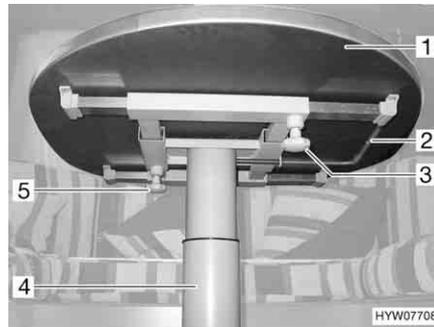
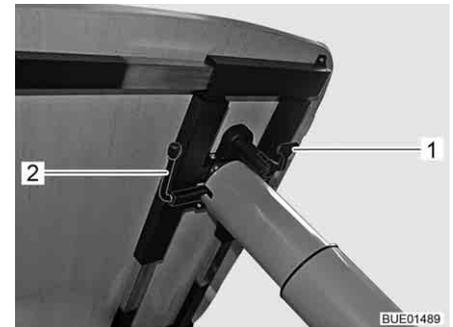

Fig. 103 Adjustment of lift-off table
Fig. 104 Adjustment of lift-off table (alternative)
- Loosen the knurled screw (Fig. 103,5) or push the lever (Fig. 104,1) down.
- Push the table-top (Fig. 103,1) into the desired position.
- Loosen the knurled screw (Fig. 103,3) or push the lever (Fig. 104,1) down.
- Swivel the lever (Fig. 103,2 or Fig. 104,2) underneath the table-top by 180° in an anticlockwise direction. The lifting mechanism in the table leg (Fig. 103,4) is unlocked.
- Swivel the lever (Fig. 103,2 or Fig. 104,2) underneath the table-top by 180° in an anticlockwise direction. The table-top moves upwards to the limit stop.